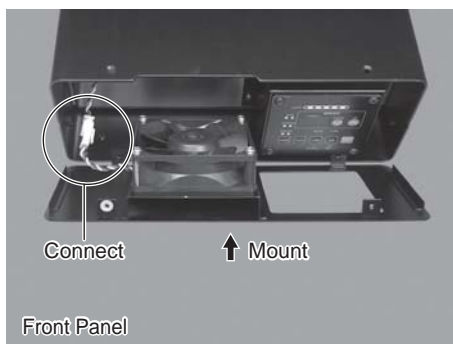

Fig. 45
- (11) Connect the FAN Cord Connector (Fig. 45).
- (12) Re-attach the Front Panel to the CONTROLLER's Main Body (Fig. 45).